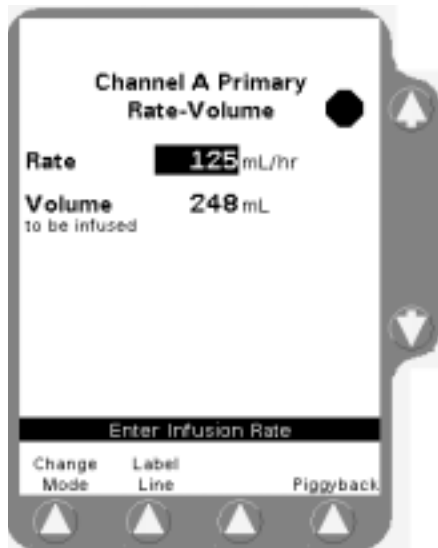

Figure 5-3 Label Line Soft Key on Programming Screen
If a pump channel is stopped or a label has not been previously selected and the feature has been enabled, a **Label Line** soft key is displayed on the Programming screen (Figure 5-3).
1. Press the **Channel Select** key to access the desired Programming screen (Figure 5-3).